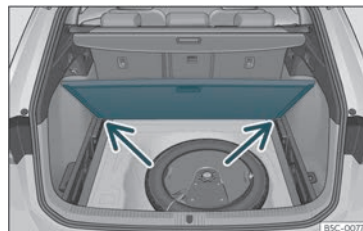

Fig. 123 Variable luggage compartment floor: inclined position.
- Rest the floor on its housings»» Fig. 123 (arrows).